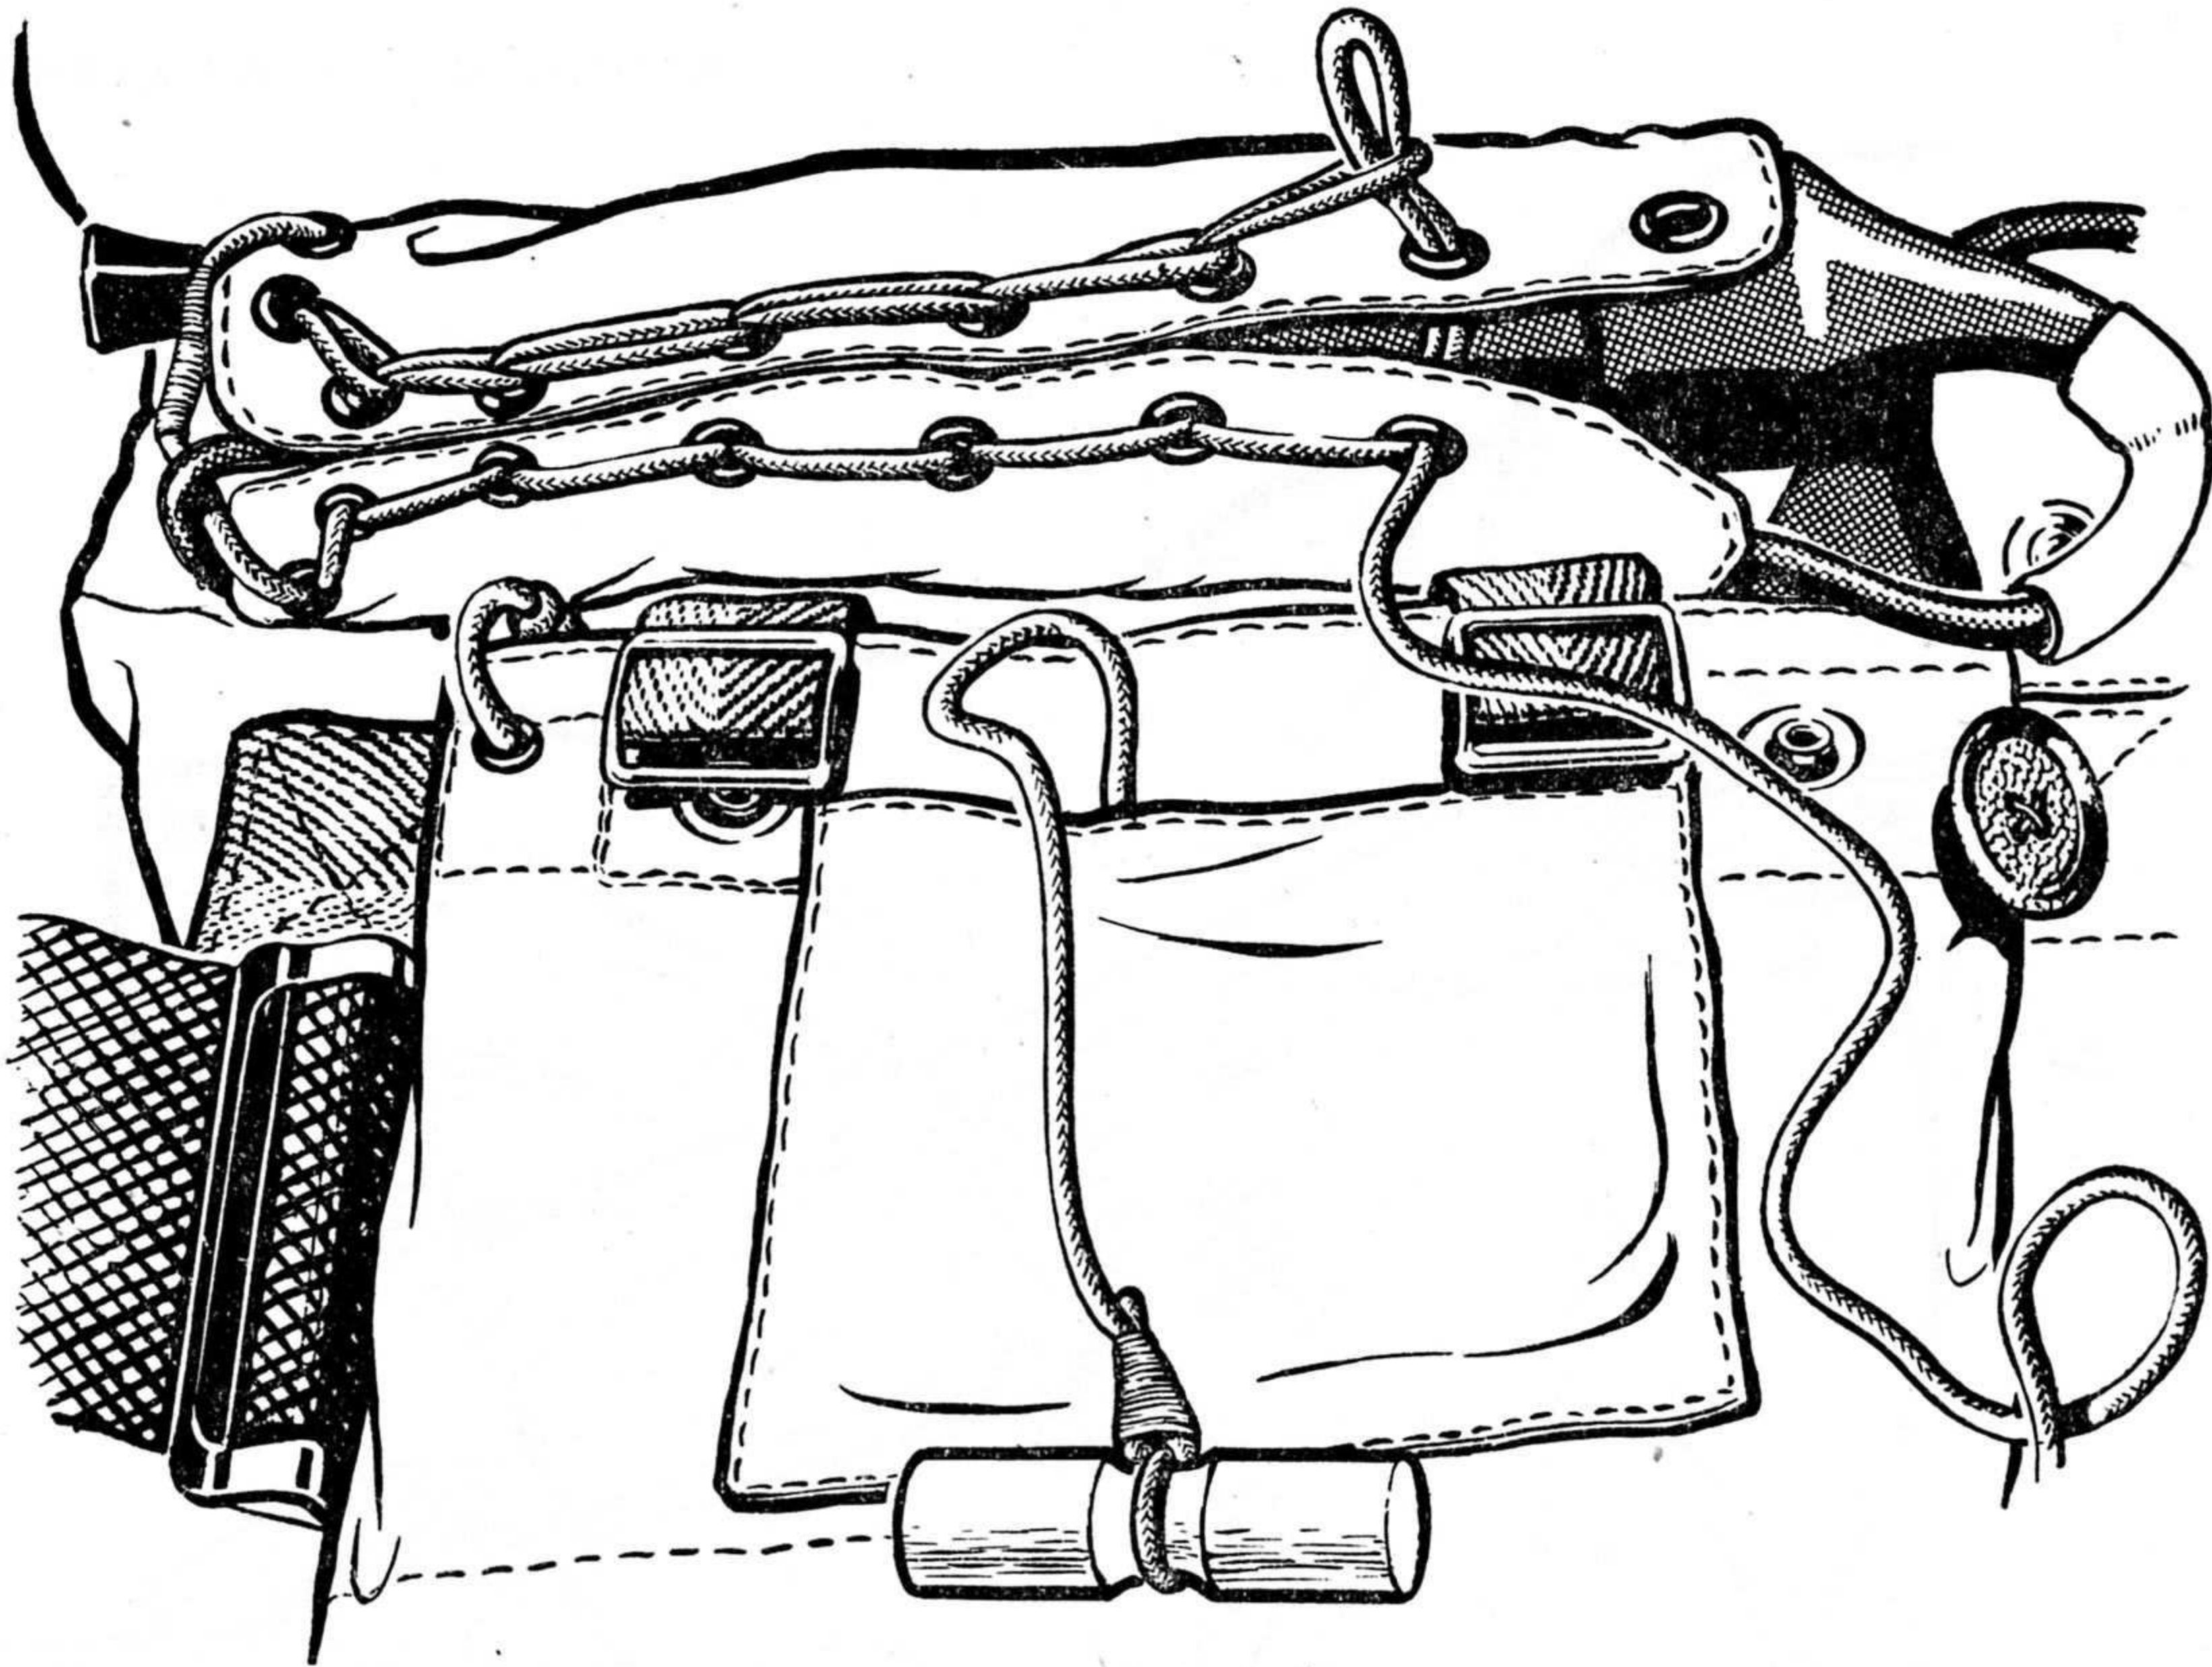

Fig. 3. Chain lacing
(2) *Stowing the transmitter.* The transmitter is stowed between the eyeletted flaps situated above the battery pocket under the cover flap (*fig. 2*). It must be placed as far to the rear of the stowage as the clip on the case will permit with the cable entry outside the socket of the battery. The cable is coiled in a single turn round the transmitter, care being taken to avoid twisting it. After the transmitter is stowed the flaps are laced together by chain lacing (*fig. 3*), the cord passing through the bend
(3) *Stowing the speech unit and cable.* The cable leading to the speech unit is laid in the tunnels formed by the flaps at the front of the arm holes and the back of the neck, care being taken that it is not twisted, then the flaps are fastened over it by the press studs (*fig. 6 and 7*). The speech unit is stowed in its pocket with the microphone inwards so that it will lie next to the wearer's body; the spare cable is laid beside it. The eyeletted edges of the stowage are then laced together by the method shown in fig. 3, 4 and 5. *The correct method of lacing must be followed.* The last